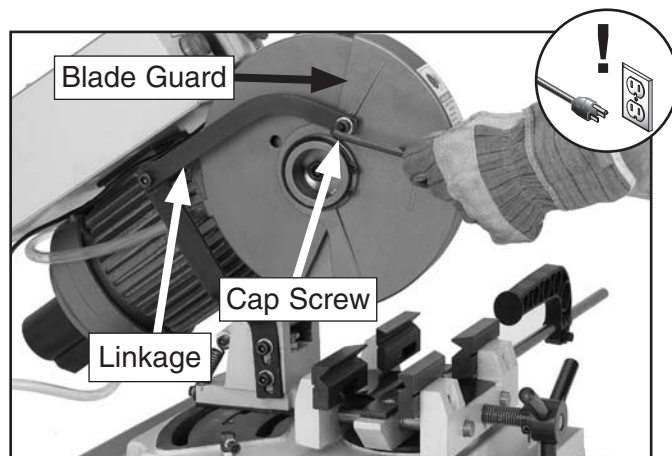

Figure 22. Removing guard linkage.
2. Disconnect the blade guard linkage by removing the cap screw that connects it to the saw guard (**Figure 22**).
5. Remove the blade and blade flange (**Figure 22**).